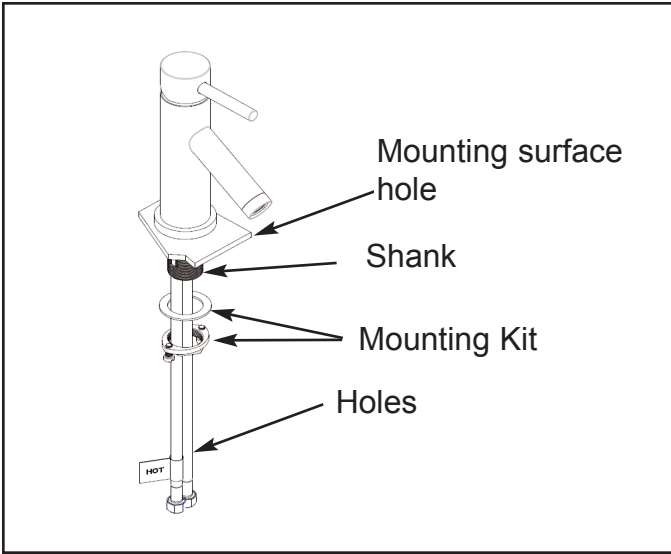

Figure 1
1. Place **SHANK & HOSES** through **MOUNTING SURFACE**. Secure spout into place with **MOUNTING KIT**. See Fig. 1